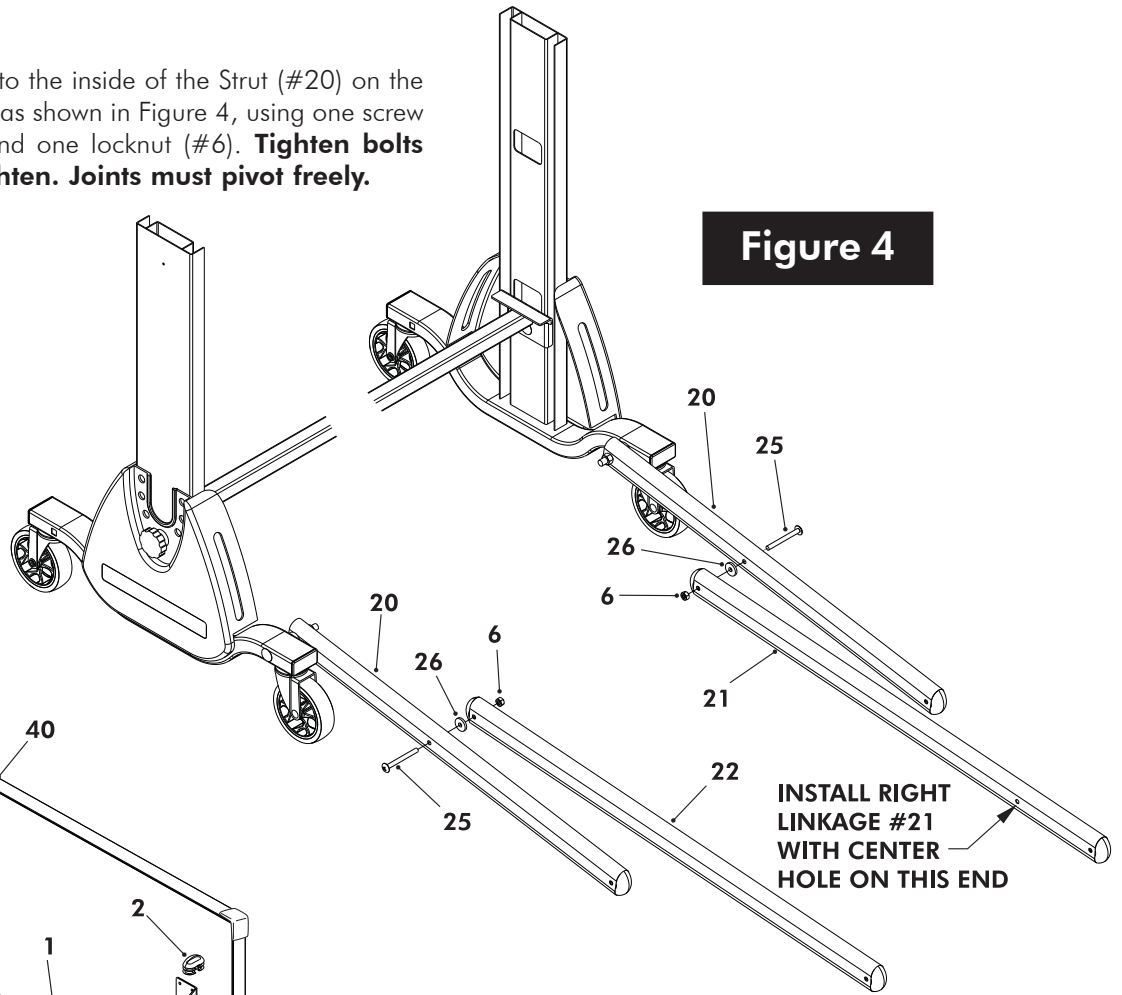

Figure 4
6. Attach a Right Linkage (#21) to the inside of the Strut (#20) on the right side of chassis assembly, as shown in Figure 4, using one screw (#25), one spacer (#26) and one locknut (#6). **Note: Right Linkage (#21) must be installed as shown in Figure 4. Tighten bolts tight but, do not over tighten. Joints must pivot freely.**
7. Attach a Left Linkage (#22) to the inside of the Strut (#20) on the left side of chassis assembly, as shown in Figure 4, using one screw (#25), one spacer (#26) and one locknut (#6). **Tighten bolts tight but, do not over tighten. Joints must pivot freely.**